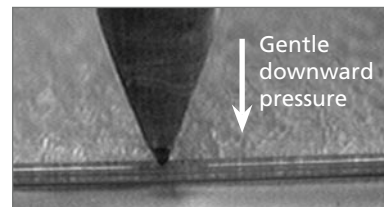

FIGURE 9 Cleaving tool in proper position
1. Place the tubing to be cut on a flat, clean surface and position the cleaving tool perpendicular to the tubing surface, as shown in Figures 9 & 10B. The long axis of the blade should be perpendicular to the tubing bore.